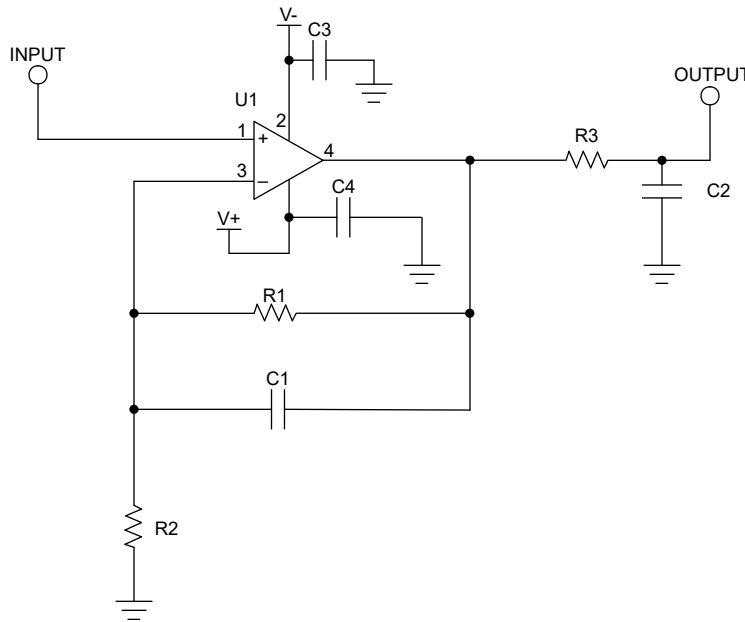

图 7-3. Schematic for Noninverting Configuration Layout Example
Place 0.1 μF bypass capacitors close to the power-supply pins to reduce errors coupling in from noisy or high-impedance power supplies. For more-detailed information on bypass capacitor placement, see 图 7-3.
- Place the external components as close to the device as possible. As illustrated in 图 7-3, keeping R_F and R_G close to the inverting input minimizes parasitic capacitance on the inverting input.